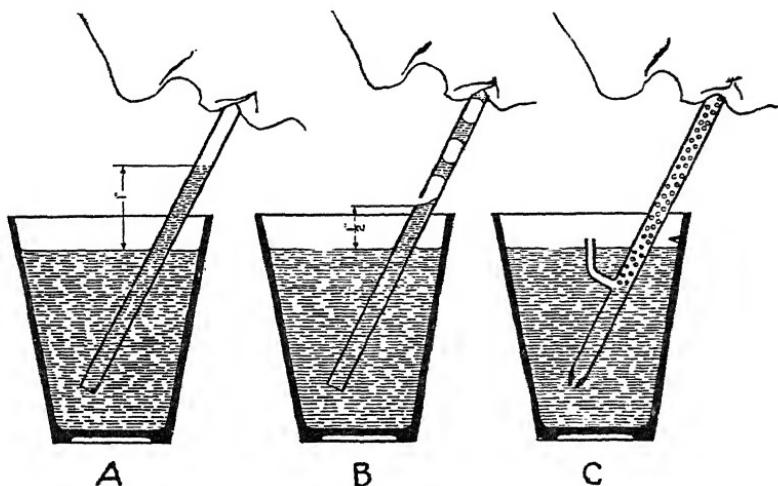

Fig. 47. Principle of Air-Bleeding a Jet
**Action of Air-Bleed.** The Stromberg application of the air bleed is illustrated in Fig. 47 at C. Just as a boy will use a straw to draw milk from a glassful, as shown at A, so may the carburetor action be considered. It will be noted that at A the fuel is being drawn without any air. However, if a small hole is placed in the straw, as shown at B, it will be noted that the same suction as before allows bubbles to enter and the milk will be drawn upward in a continuous series of drops. At C, illustrating the air-bleed principle, it will be noted that an additional tube has been set into the original tube or straw at a point somewhat below the top surface of the fluid. Suction on the tube now introduces a considerable